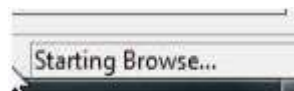

Figure 3-A
5. Return to RSNetWorx for DeviceNet – verify it is Online to the DeviceNet Demo Board – Bottom right corner if the RSNetWorx software does not say Offline. See Figure 3-A